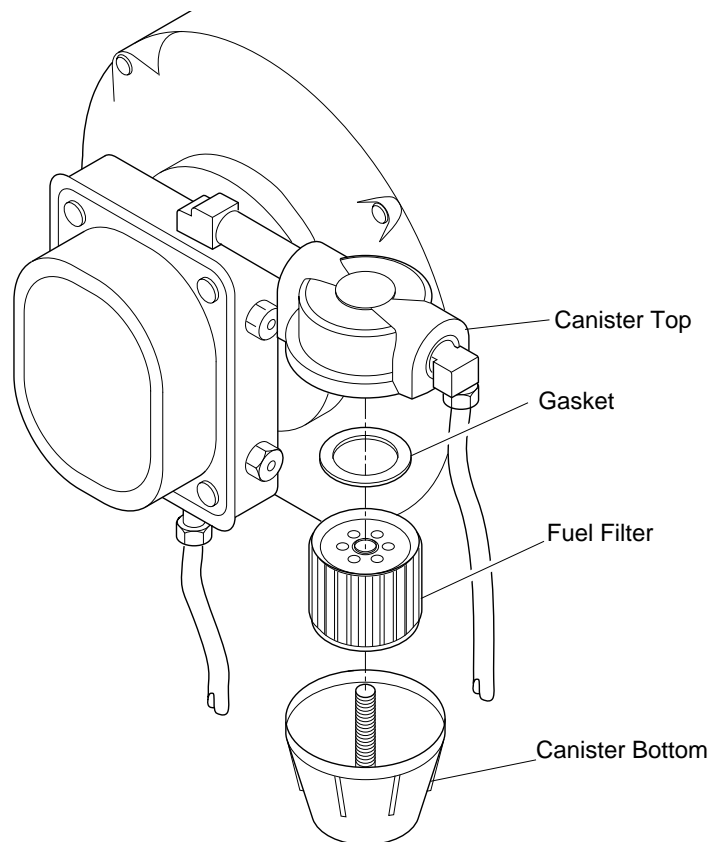

Figure 15 - Fuel Pump Filter and Canister
2. Remove fuel filter and gasket from canister bottom (see Figure 15).